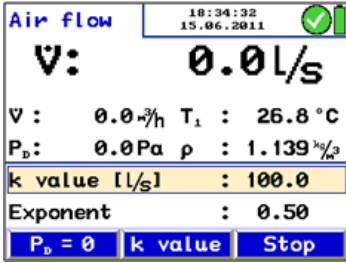

Fig. 21: Menu "Air flow (k value)"
- Select K value, see Fig. 21: Menu "Air flow (k value)"
Press  $P_D = 0$  (menu bar, see Fig. 21: Menu "Air flow (k value)" to zero the pressure sensor.